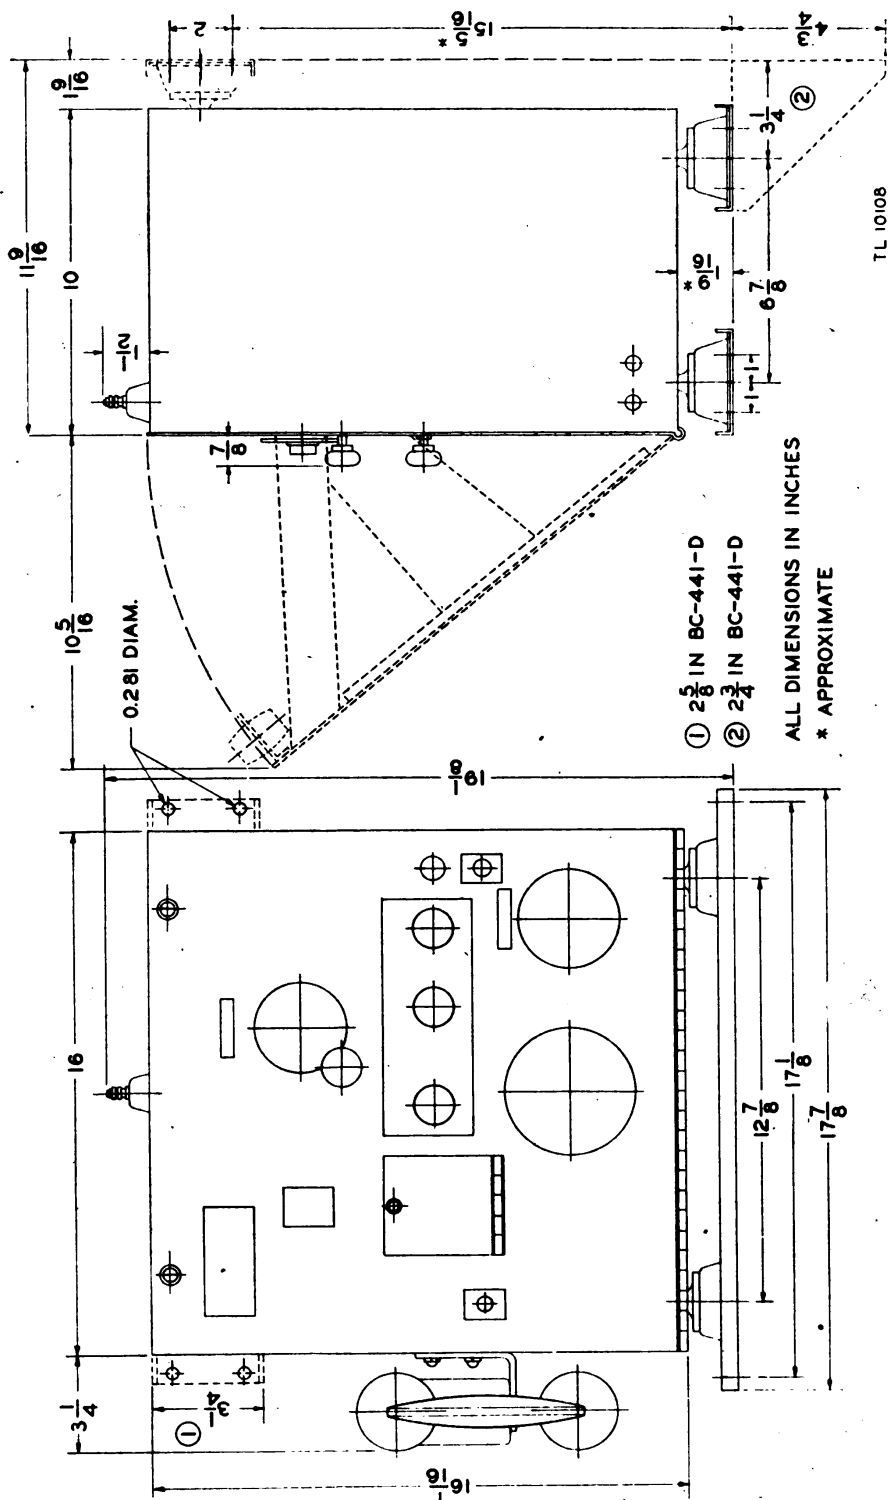

Figure 5. Radio Receiver and Transmitter BC-441-(*)—outline dimension drawing.
A single Radio Set SCR-281-(*) is packed in a crate 16 by 26½ by 24½ inches. The total weight is 143 pounds. The cubage is 6 cubic feet. For dimensions of the unpacked set, see figure 5 and paragraph 5.
Radio Receiver and Transmitter BC-441-(*) may be mounted either on a horizontal surface such as a shelf or table, or on a vertical surface such as a bulkhead or wall, using the dimensions given for the appropriate set (fig. 5).
b. For vertical mounting, remove the forward channel of the mountings and bolt it to the upper rear of the cabinet, while securing the rear channel to the mounting brackets WML and WMR (left and right) for this position (see the dotted lines in fig. 5). When mounting in this manner, use at least $\frac{1}{4}$ -inch bolts and washers which are large enough to prevent the bolts from pulling through the wall.